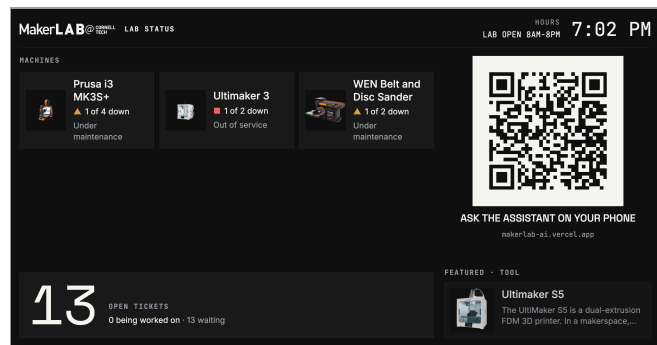

Fig. 2: The kiosk (/kiosk) on the lab's TV: machines down, open tickets, hours, a featured tool, and a QR code that opens MakerLAB AI on a visitor's phone.
**Public dashboard.** A full-screen kiosk (Fig. 2) shows down machines, open tickets, hours and a QR code that opens the assistant on a visitor's phone. A projects gallery links each project to the machines used. Anonymous usage insights estimate staff hours saved and after-hours coverage. A Model Context Protocol (MCP) [1] endpoint lets any MCP client, such as Claude [2] or ChatGPT [3], list tools, read units and maintenance history and search the manuals. The code is public [4].